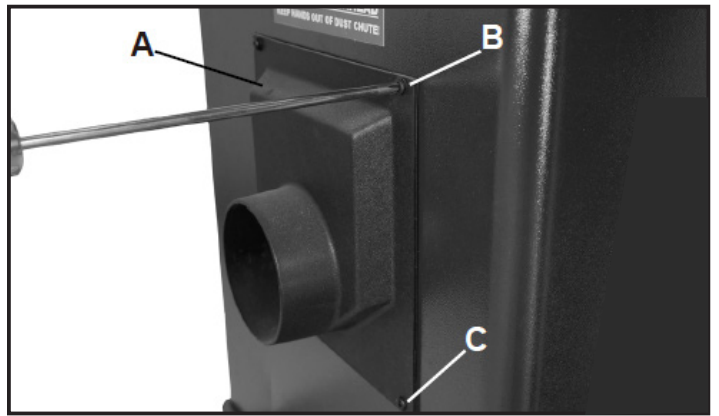

FIG.5.5
- Tighten the two upper Screws (B) with a Phillips screwdriver, and tighten the two lower Screws (C) with a Phillips screwdriver when the dust port is in proper location. FIG. 5.5.